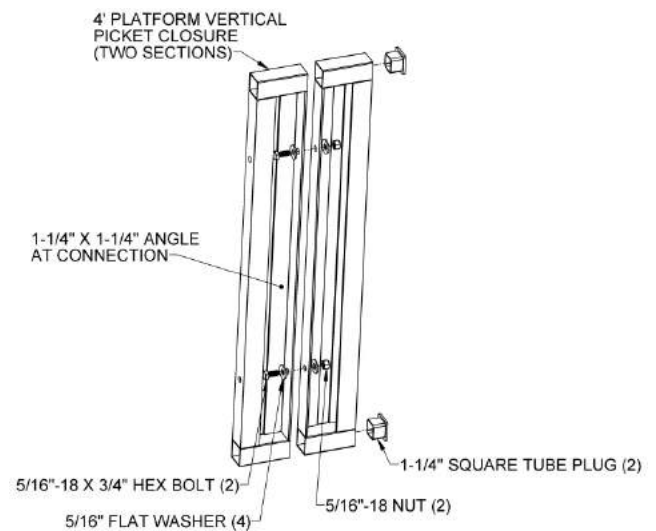

FIG. 5.14
👉 The 4' closure includes angles (rather than channels) on one side to allow access to the assembly fasteners. Always bolt the 4' closure together using the side with the angles and attach the side with the channel to the platform post (FIG. 5.14).
- 5.6.9. Cut a 1 1/2" diameter round tube and the 1-1/2" x 2" curb to the measured gap length, less 1/8" to account for threaded inserts which will be installed after cutting (FIG. 5.14).